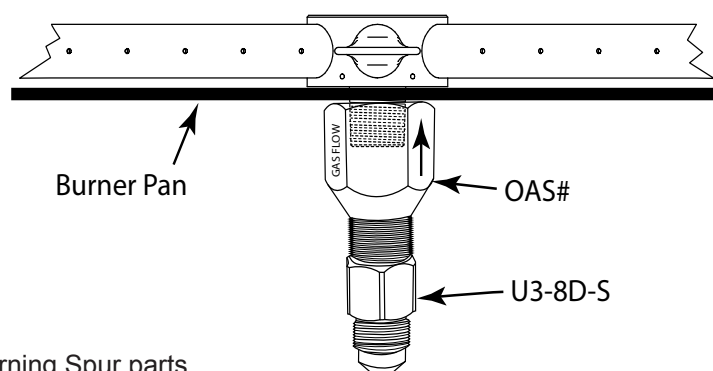

Fig. 5. Natural Gas Burning Spur parts
4. The primary gas shut-off (not supplied) will require a ½" male flared fitting to enable connection of the stainless steel flex gas line supplied with the fire pit (see Fig. 5 page 9).
5. Do not place an LP tank inside any fire pit enclosure. Locate all Liquid Propane (LP) tanks outside the enclosure.
Although, a pan is not required, the Burning Spur into the burner needs a center hole a minimum of $\frac{7}{8}$ -inch in diameter. We strongly recommend using a pan for any Propane or LP Gas installations. Once the Burning Spur is placed into the center hole of your fire pit pan then install the orifice (OAS) and fitting (U3-8D-S) as shown in Fig. 5. **Note:** Use Teflon tape or compound rated for gas to seal the threads.